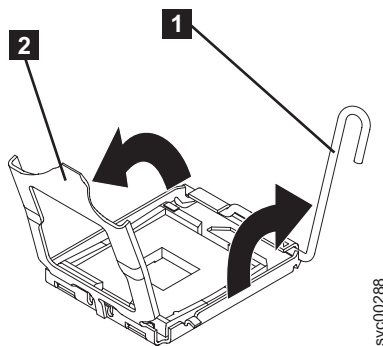

Figure 257. The microprocessor release lever and bracket frame fully opened
4. Open the microprocessor release lever (**1** in Figure 257) to the fully open position.
5. Open the microprocessor bracket frame (**2** in Figure 257).